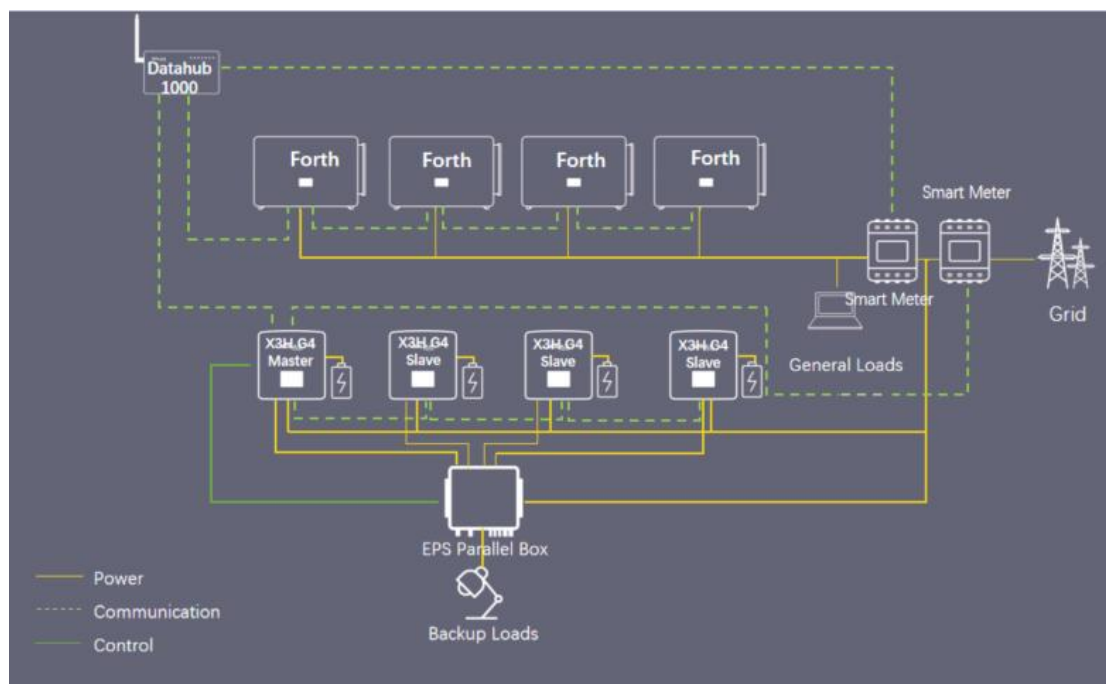

Figure 1: Datahub-Hybrid-On-grid Solution Diagram
Step 1: As shown in Figure 1, For The meter On grid connection point, install it on the grid side according to Hybrid Parallel Solution. For The meter between grid connection point and On grid load, install it between common loads and The meter On grid connection point. The AC output of the Hybrid On-grid should be connected between the two meters.